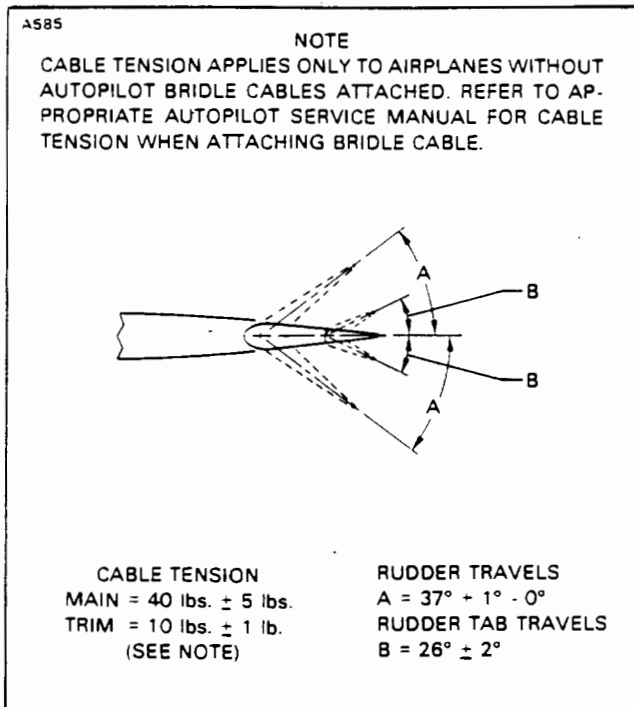

Figure 27-7. Rudder Rigging
- B. With the rudder against its stop, place a rigging tool against the side of the rudder and vertical stabilizer as shown in Figure 27-7. (Ascertain that the tool is not contacting any rivets.) If no gap exists between the rigging tool and the surface of the rudder and vertical stabilizer, the rudder stop for one direction of travel is correct as required in Chart 2701. (This tool may be fabricated from dimensions given in Chapter 91.)
- D. Adjust the turnbuckles in the aft section of the fuselage to obtain proper cable tension as given in Figure 27-7 and to allow the rudder to align at neutral position. Neutral position can be determined by standing behind the airplane and sighting the rudder with the vertical stabilizer.